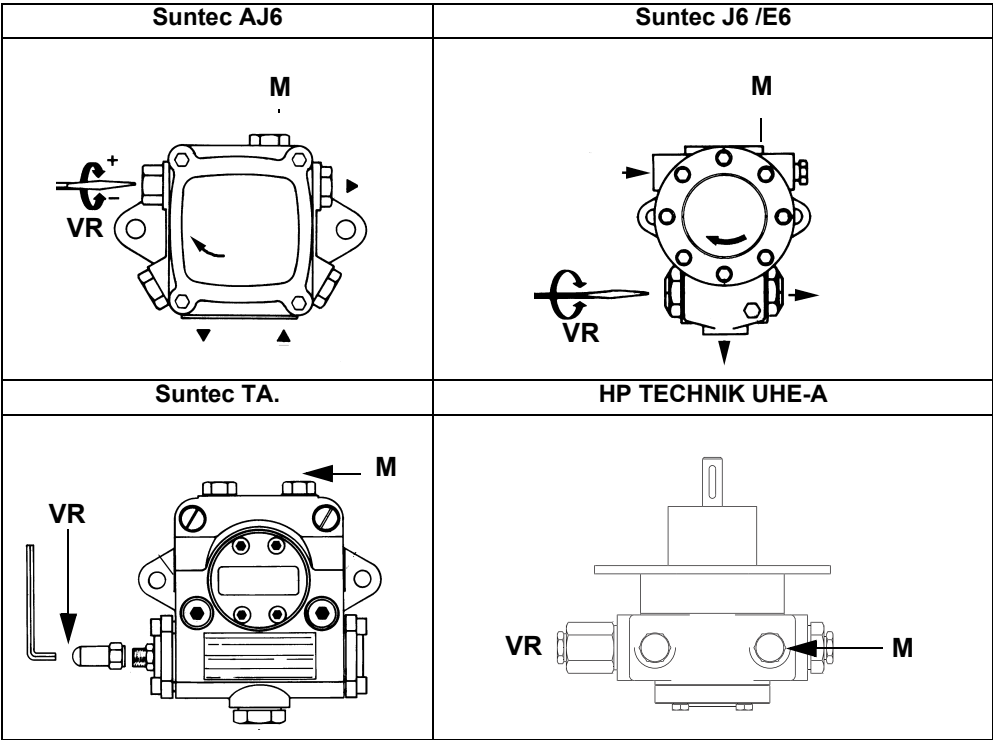
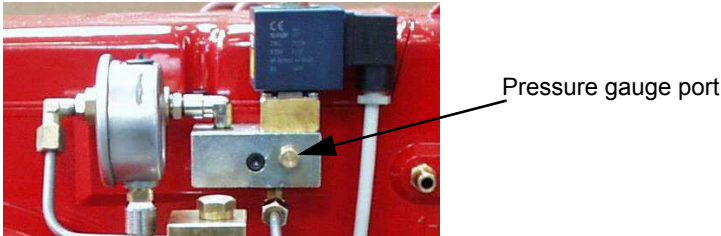
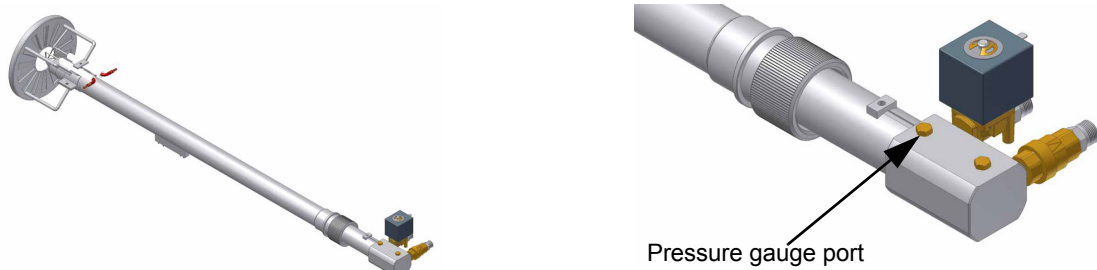

Fig. 11
Fig. 12 - Light oil manifold (PG60)
Fig. 13 - Combustion head with light oil gun
- 2 bleed the air from the **M** pressure gauge port (Fig. 11) by loosening the cap without removing it, then release the contactor.
- 4 Fig. 12 Fig. 13the nozzle supply pressure is already factory-set and must not be changed. Only if necessary, adjust the supply pressure as follows (see related paragraph);insert a pressure gauge into the port shown on Fig. 12-Fig. 13 and act on on the pump adjusting screw **VR** (see Fig. 11) as to get the nozzle pressure at 20bar (Bergonzo nozzles - see diagram on Fig. 10).